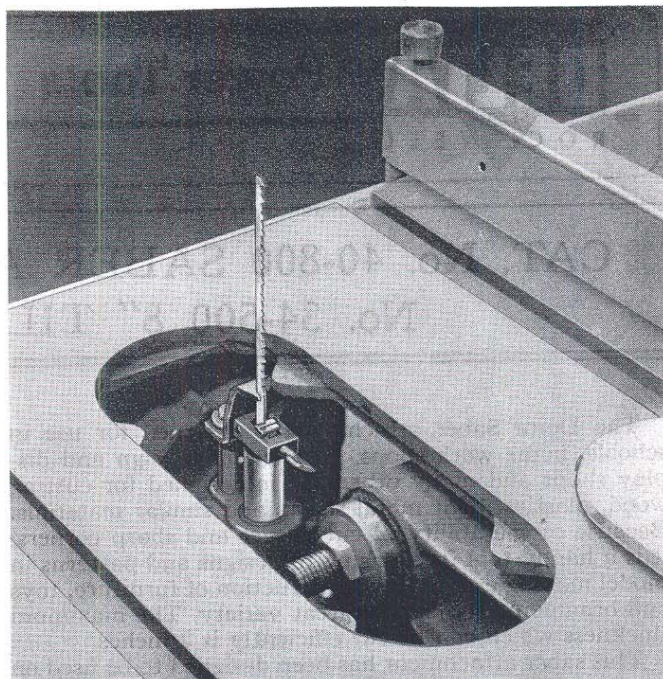

Figure 4
11. Insert saber blade, teeth of blade to face front of machine, (not towards the motor) see Figure 4, tighten blade firmly with thumb screw. Blade cuts on down stroke.